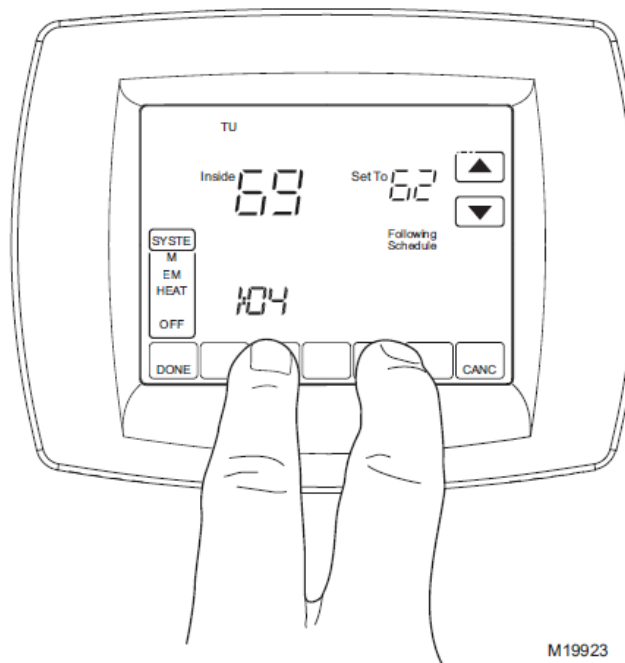

Fig. 7. Entering ISU mode.
2. Press and hold the two blank keys on either side of the center key for approximately five seconds (see Fig. 7).